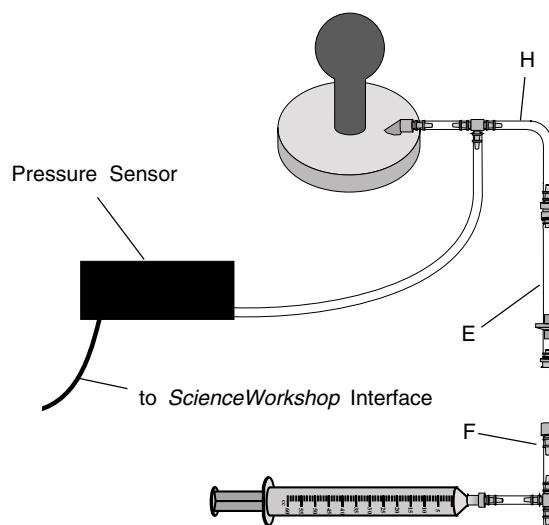

Figure 6
3. Disconnect part E from part F (figure 6).